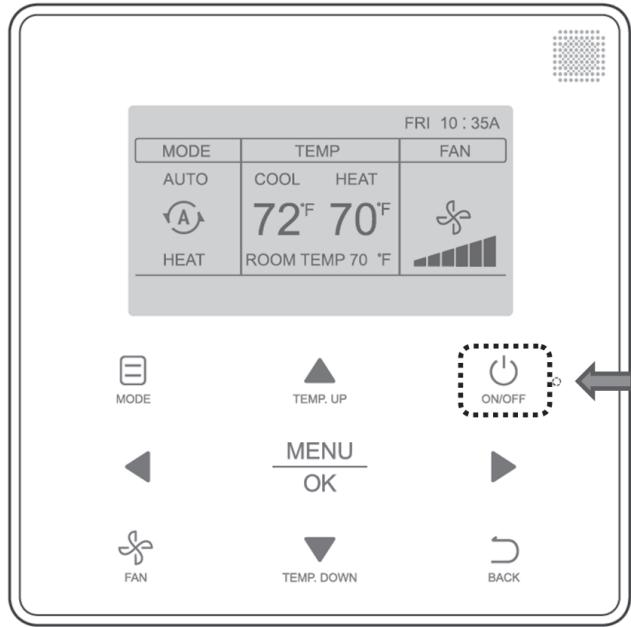

Fig. 10 — LED Light Display
**ON/OFF Setting** — Press ON/OFF  to turn the IDU (indoor unit) on/off. The LED is lit when the unit is powered on see Fig. 10.